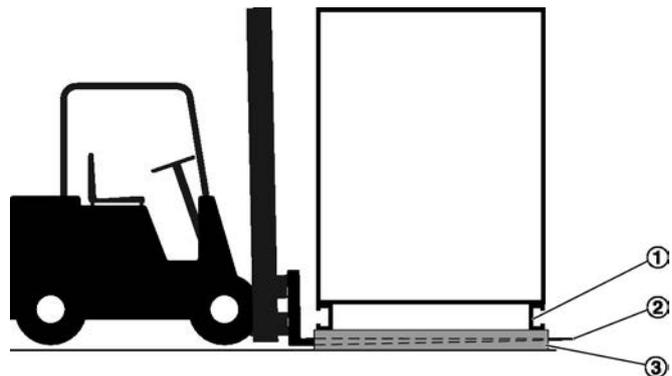

Fig. 11: Carrying load with a forklift
1. ▶ Drive the forklift forward until the forks (Fig. 11 /3) are fully between the square edge timber sections (Fig. 11 /2) and protrude from underneath the base frame (Fig. 11 /1) on the opposite side.